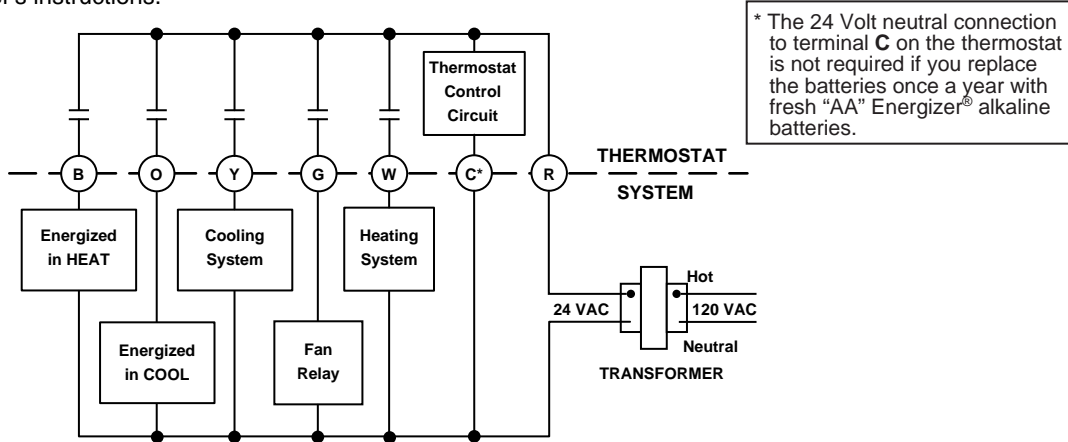

Figure 3. Typical wiring diagram for single transformer systems
6. Check that the system is turned off. Connect the wires beneath the terminal screws on the base using the appropriate wiring diagram (see figs. 3 through 5).